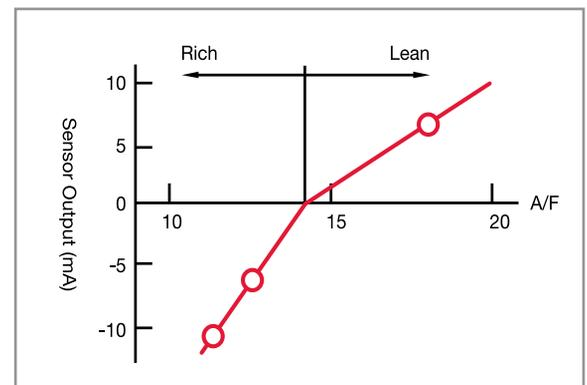

Fig. 7: A/F Sensor Output.
- > An **A/F Sensor** outputs a small current between -10mA and +10mA, where the output is a stable value, proportional to the air/fuel ratio (Fig. 7).